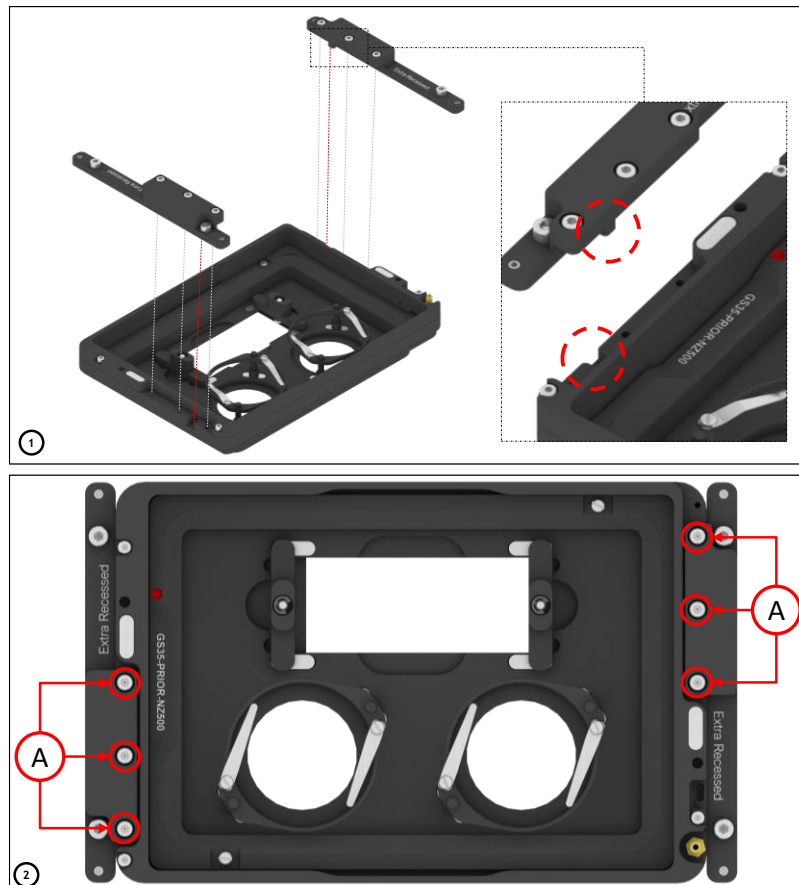

Figure 4. Spacer Assembly
To mount the spacer on H201-PRIOR-SP200-400-600 chamber, follow the steps shown in Figure 4:
1. Place the spacer into the dedicated slot taking care to match the screws position. Use the small centering pin as guide (see 1 in Figure 4).
2. Fasten the captive screws indicated by letter A using a 2.5 hexagonal key (see 2 in Figure 4).